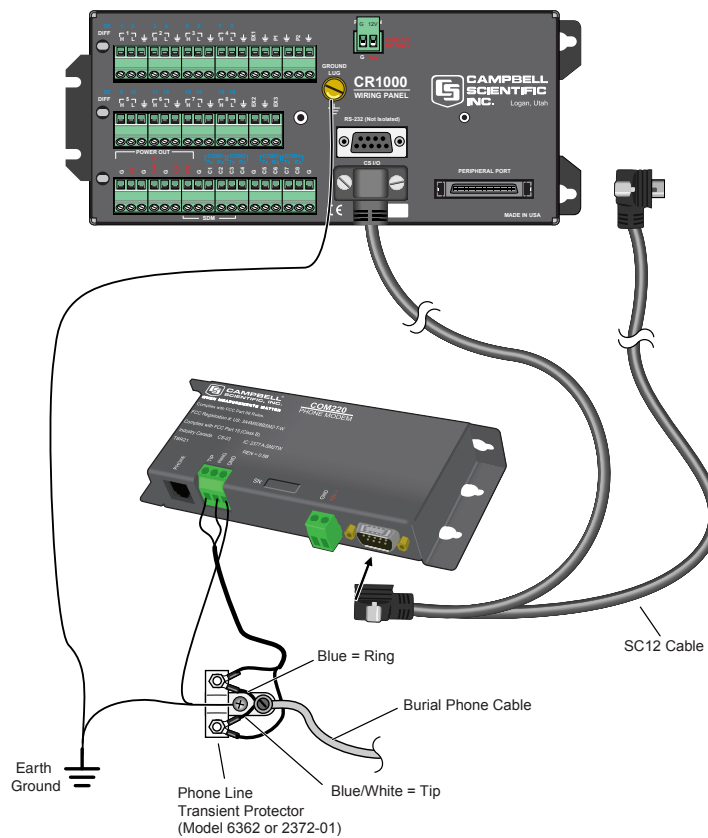

FIGURE 3.3-2. COM220 modem with surge protector
Mount the modem to the enclosure backplate as shown in Figure 3.3-2.
3. The telephone company generally provides surge protection, and a patch cord that plugs into the RJ11C jack. If surge protection has not been provided, the Model 6362 Surge Protector Kit can be installed to the enclosure backplate. Connect the two terminals on the surge protector to the "tip" and "ring" terminals on the modem as shown in Figure 3.3-2.